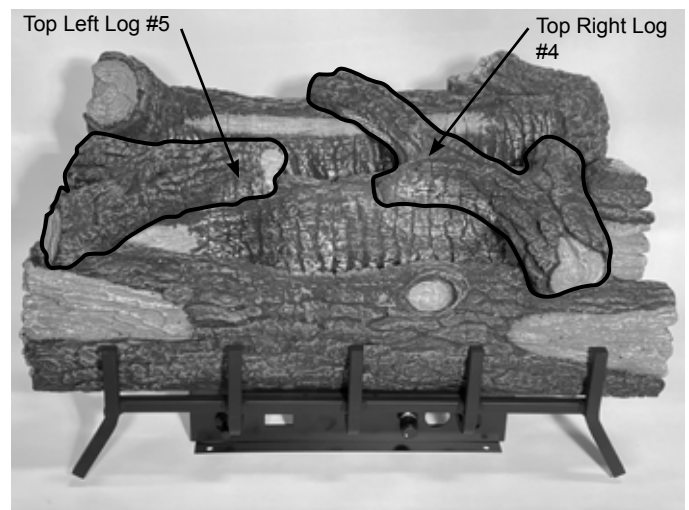

Figure 6.13 - Place Top Right and Left Logs
4. Place Top Right Log (#4) in bottom log cutouts. Figure 6.13
5. Rest Top Left Log (#5) in front and middle log cutouts. Figure 6.13